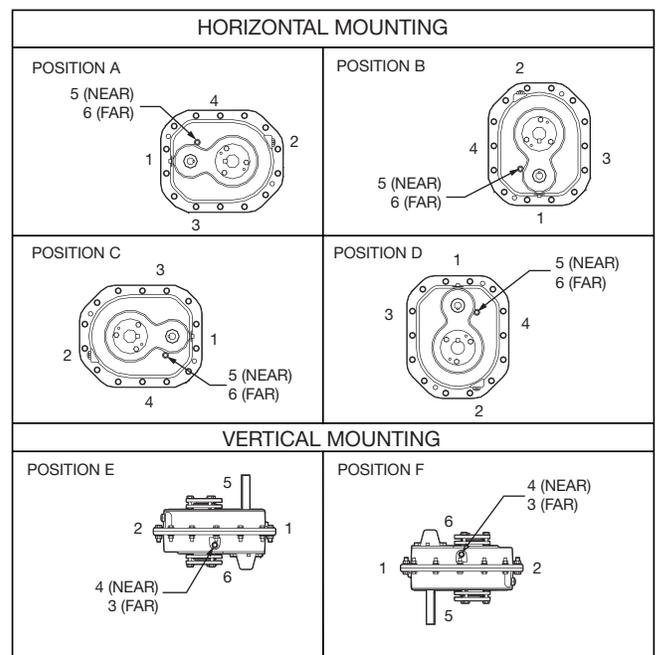

Figure 1 - Mounting Positions
2. Determine the running positions of the reducer. (See Figure 1) Note that the reducer is supplied with 6 plugs; 4 around the sides for horizontal installations and 1 on each face for vertical installations. These plugs must be arranged relative to the running positions as follows:
Vertical Installations – Install the filter/ventilation plug in the hole provided in the upper face of the reducer housing as installed. If space is restricted on the upper face, install the vent in the highest hole on the side of the reducer per Figure 1. Install a plug in the hole in the bottom face of the reducer. Do not use this hole for the magnetic drain plug. Of the remaining holes on the sides of the reducer, use the plug in the upper housing half for the minimum oil level plug.
* Below 15 RPM output speed, oil level must be adjusted to reach the highest oil level plug. If reducer position is to vary from those shown in Figure 1, either more or less oil may be required. Consult your Dodge Sales Representative.
The running position of the reducer in a horizontal application is not limited to the four positions shown in Figure 1. However, if running position is over 20° in position "B" & "D" or 5° in position "A" & "C", either way from sketches, the oil level plug cannot be used safely to check the oil level, unless during the checking, the torque arm is disconnected and the reducer is swung to within 20° for position "A" & "C" or 5° for position "B" & "D" of the positions shown in Figure 1. Because of the many possible positions of the reducer vent seepage might occur and it may be necessary or desirable to make special adaptations using the lubrication filling holes furnished along with other standard pipe fittings, stand pipes and oil level gauges as required.